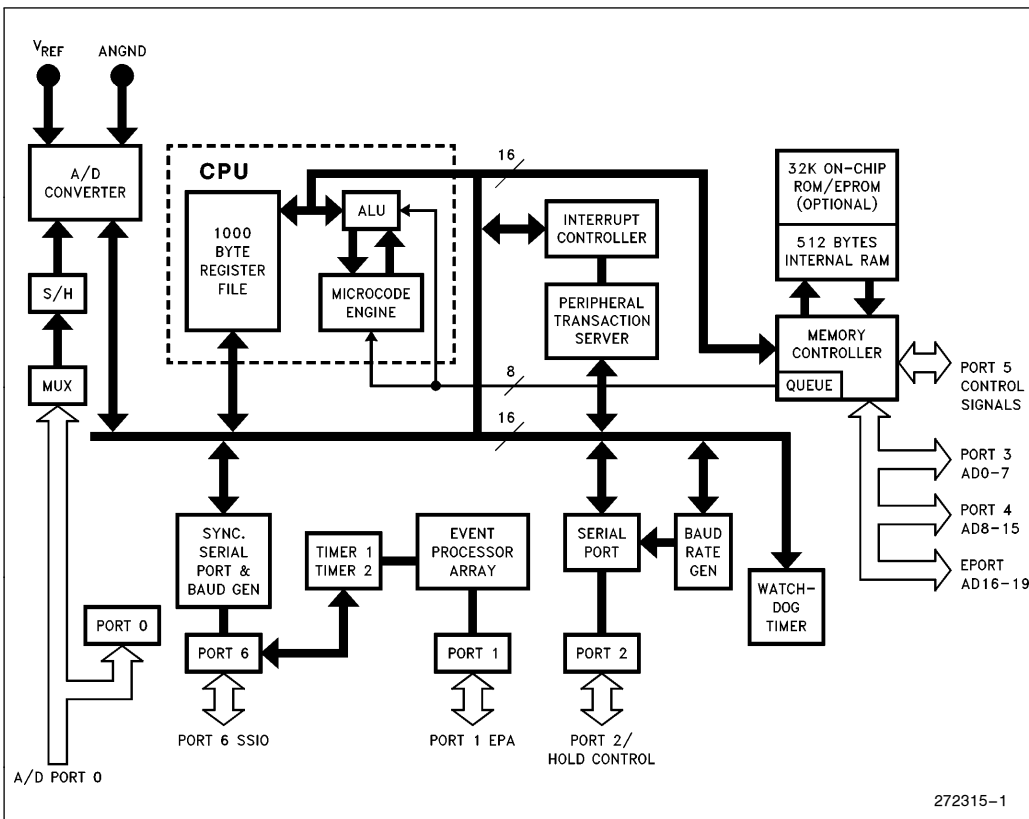

Figure 2-1. 8XC196NT Block Diagram
The architecture for the 8XC196NT is consistent with the previous members (see Figure 2-1). The program counter has been extended to 24 bits to accommodate the extended addressing capabilities. The ALU is tied directly to the register RAM which creates a register-register architecture. The 8XC196NT has 1000 bytes of register RAM. Hence, one thousand accumulators (each a byte wide) are possible. This many accumulators minimizes the number of load/store operations. Notice that there are 32 Kbytes of on-chip (EP)ROM available and 512 bytes of internal RAM. The internal RAM can be used just like external RAM to execute code or hold data.